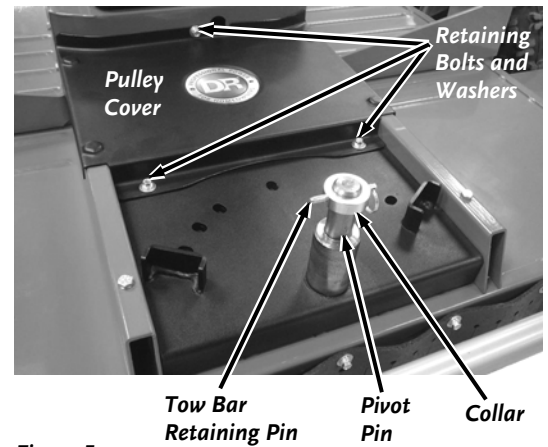

Figure 5
1. Using a 7/16" Wrench or Socket, remove the three (3) Bolts and Washers that retain the black Pulley Cover and remove the Cover (**Figure 5**).